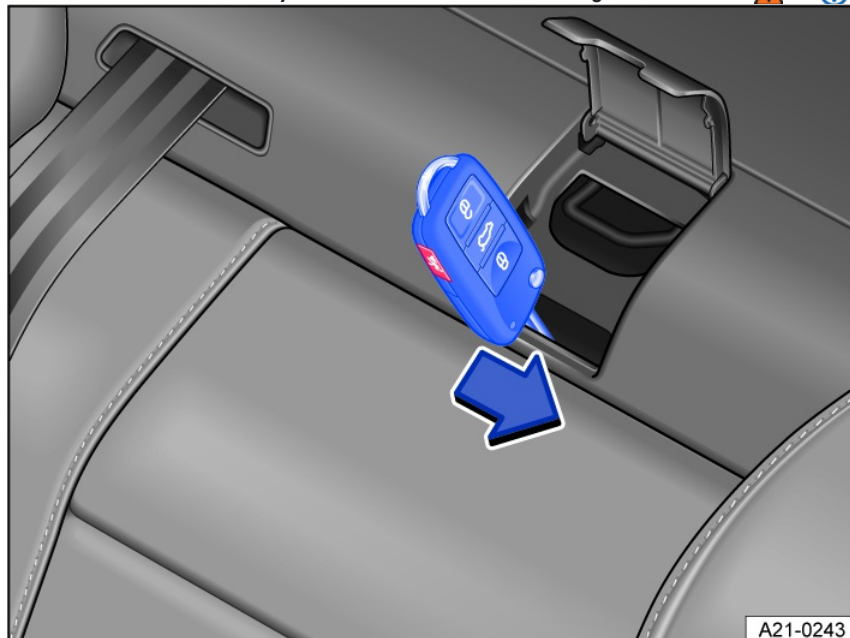

Fig. 52 Behind the rear seat backrest: mechanically unlocking the rear seat backrest using the emergency release.
1. Insert the vehicle key in the slot fig. 52 to unlock the rear seat backrest and press in the direction of the arrow.